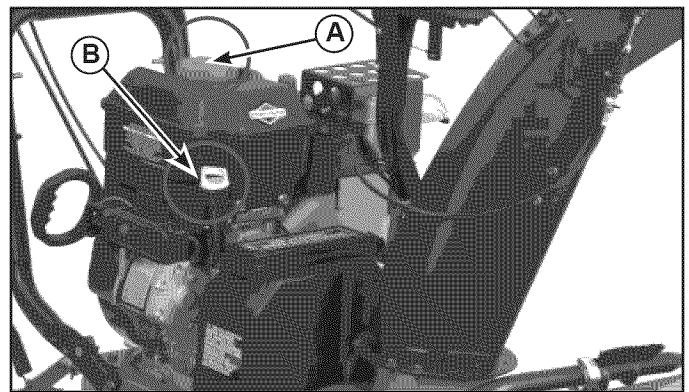

Figure 15. Check Oil Level
1. Remove oil dipstick (A, Figure 15). Check oil level. Oil level should be between FULL and ADD marks. Reinstall oil dipstick.
2. Remove fuel cap (B). Following the three-step instructions on the Fresh Start card, snap the fuel preserver cartridge into the bottom of the fuel fill cap.